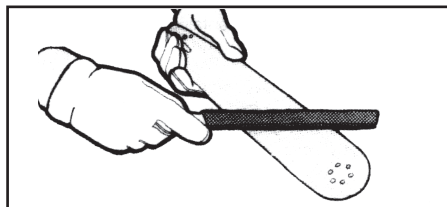

Fig. 26
2. Periodically trim the sides of the rails using a flat file. If not done in the long run, the "feathered edges" might break away and damage the bar. (Fig. 26)